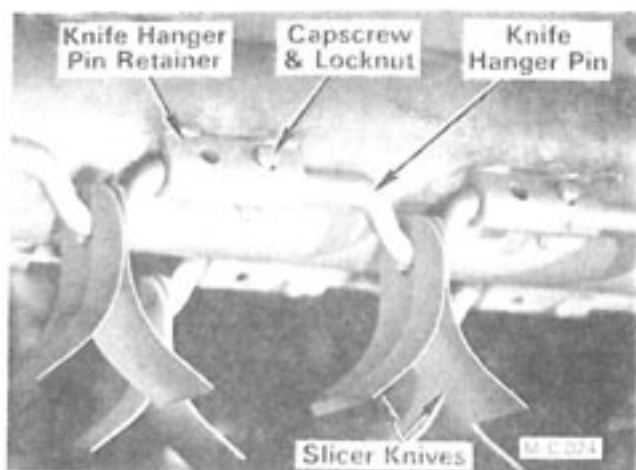

Figure 20 - Front View
2. Remove the capscrew and locknut from the knife hanger pin retainer. Slide the knife hanger pin to the left and remove the hanger pin and knives, see Figure 20.